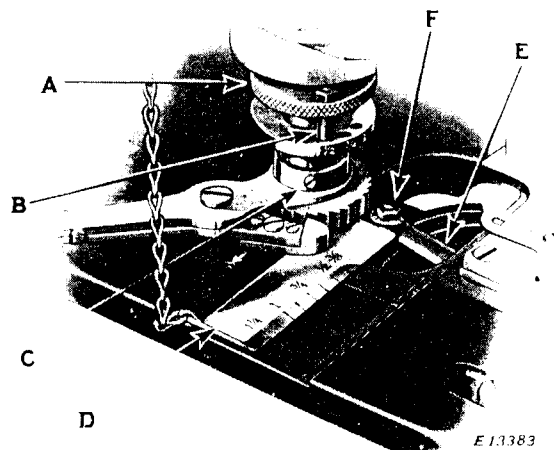

Fig. 13. Showing how to Regulate Length of Buttonhole
remove it from the machine. The gauge (D, Fig. 13), marked for different lengths of buttonholes, is furnished with the machine. Place this gauge in the slideway as shown in Fig. 13, having the number on the gauge for the desired length of buttonhole opposite the line in the slideway. Then loosen the nut (F, Fig. 13), and move the regulating lever (E, Fig. 13) against the downwardly projecting part of the gauge and tighten the nut (F).
After making the above adjustment the knurled adjusting sleeve (A, Fig. 13), must be adjusted as follows:
For buttonholes $\frac{3}{8}$ to $\frac{1}{2}$ inch long, lift the knurled adjusting sleeve and set the stud (B, Fig. 13), in the hole marked " $\frac{1}{2}$."